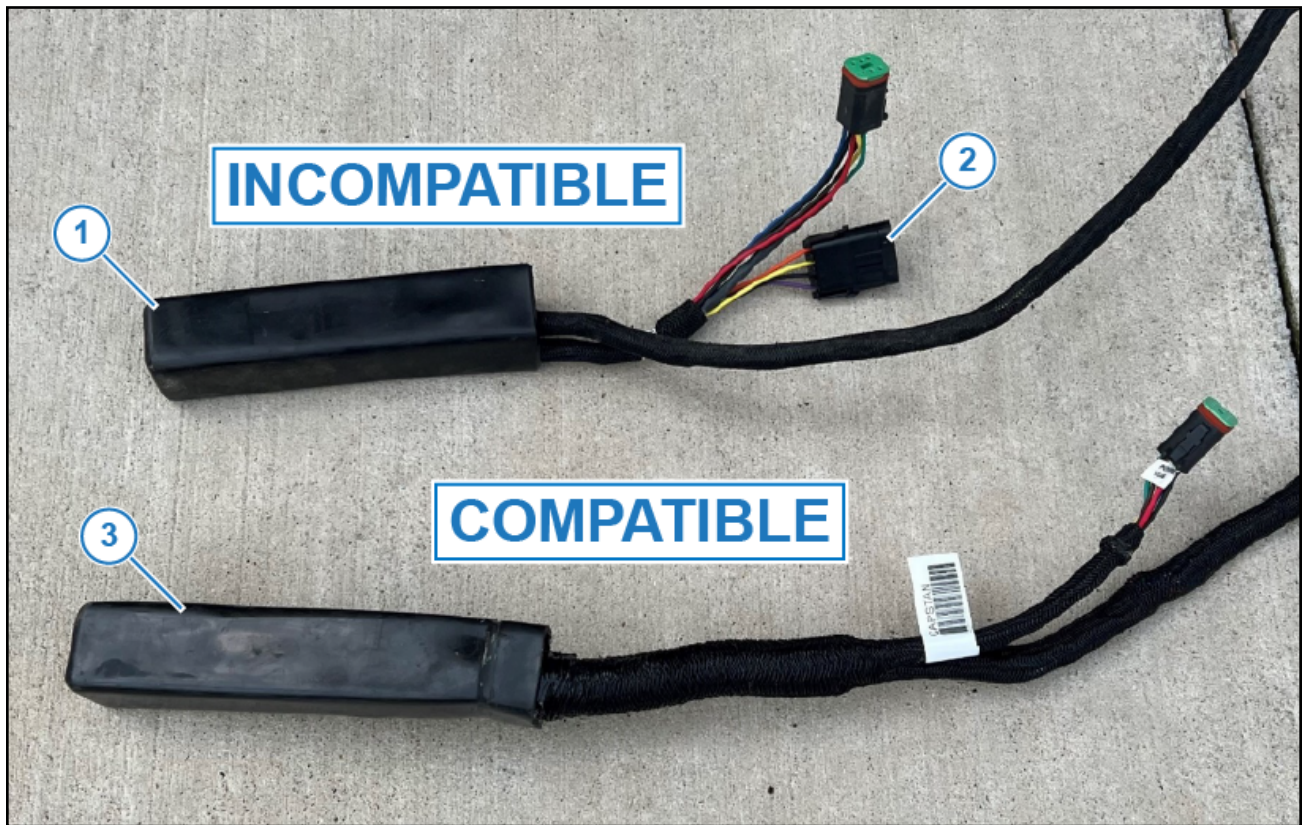

Figure 1: VCM Compatibility
- Incompatible VCM: A9 Style (Figure 1, Item 1) with 4-pin Weather Pack programming connector (Figure 1, Item 2).
- Compatible VCM: A14 Style (Figure 1, Item 3) without programming connector
- Verify VCM compatibly, refer to Figure 1.